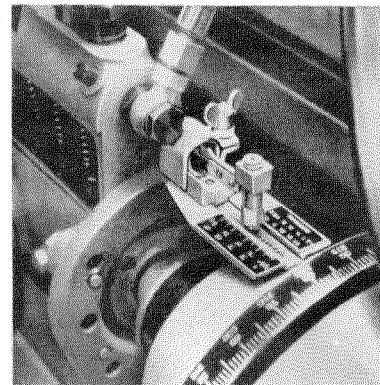

Figure 07-5/5
When checking **only** the governor and the full load discharge, the governor cover must not be removed if the fixture EFEP 171 (1) is used for the test (see Figure 07-5/4).
2. Mount the control rod adjusting fixture EFEP 42 (Figure 07-5/5). Move control rod with adjusting lever to max. stop position. Mount the adjusting fixture in this position, so that the plug bolt engages in the zero mark of the perforated plate. Then adjust the control rod according to the boxed-in value of constant delivery specified in the test data sheet.